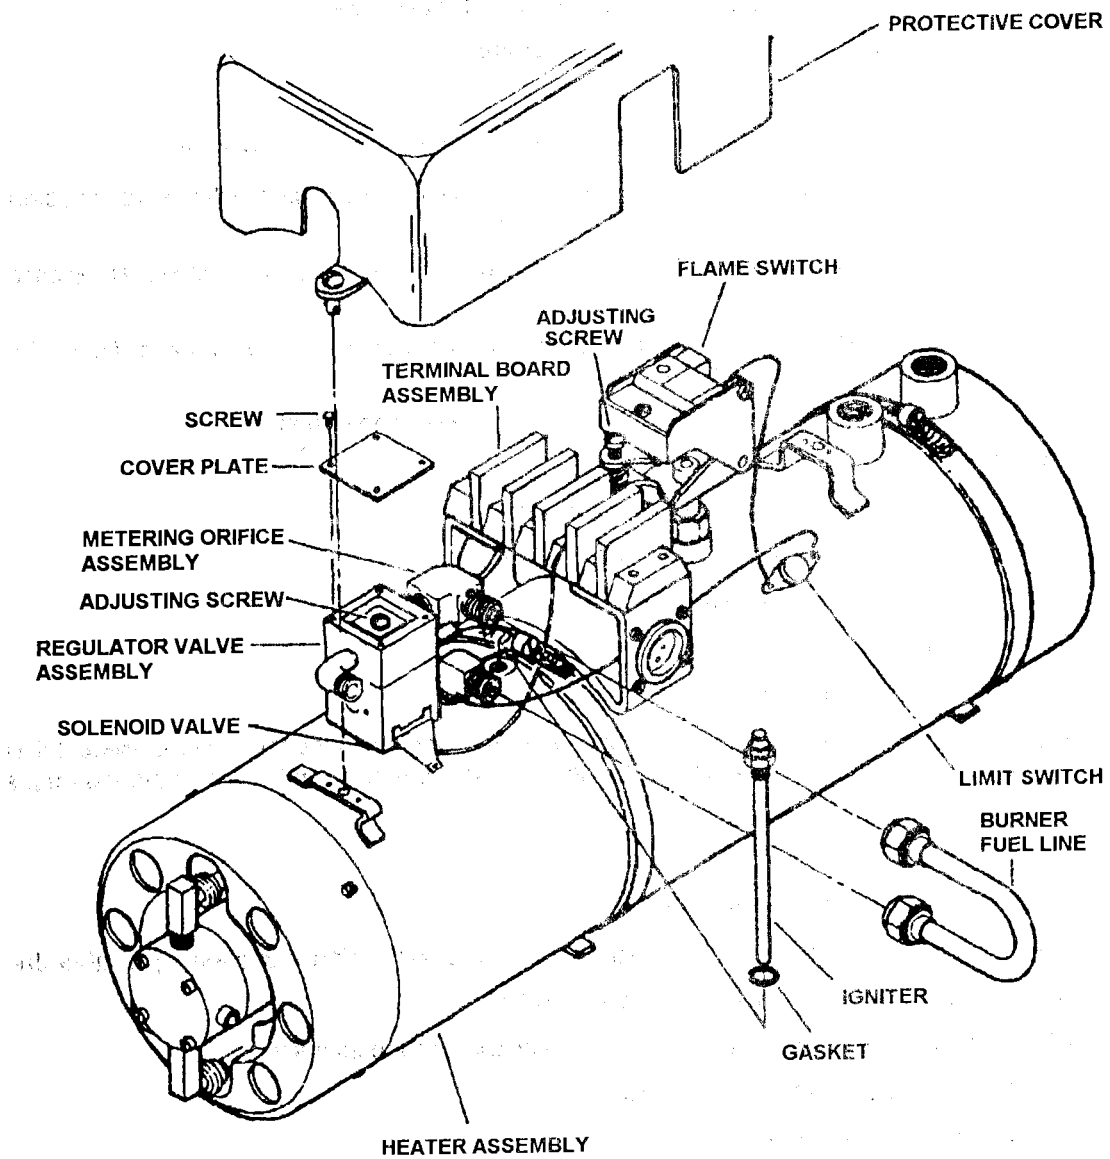

Figure 5-4. Fuel Burning Winterization Kit Heater Assembly Maintenance
- (1) Service regulator valve assembly screen, sintered filter, and metering orifice assembly (paragraph 5-7b. above). Do not install burner fuel line or protective cover.
- (2) Tag and disconnect electrical lead to igniter assembly (Figure 5-4).
- (3) Remove screws and cover plate to expose brass adjusting screw.
- (4) Connect one end of burner fuel line onto metering orifice assembly and position the other end to drain into a graduated container.
- (6) With fuel inlet line connected and fuel at the valve, place heater assembly into operation (paragraph 2-22).
- (7) Using a stopwatch, time the fuel flow into graduated container. Flow should measure 1/2 pint in 10 to 12 minutes.
- (8) If flow is not within specified limits, rotate adjusting screw (Figure 5-4) to obtain proper flow rate.
- (9) Stop heater assembly operation (paragraph 2-22).
- (10) Install burner fuel line (Figure 5-4).
- (11) Install cover plate and secure with screws.
- (12) Install igniter assembly electrical lead.
- (13) Install heater assembly protective cover.
- (14) Remove jumper wire from thermostat switch.
- (1) Remove protective cover (Figure 5-4).
- (2) Using a suitable screwdriver, rotate flame switch adjusting screw counterclockwise until heater motor starts.
- (3) Rotate adjusting screw clockwise until motor stops.
- (4) Give adjusting screw an additional 1/2 (180 degrees) turn.
- (5) Reinstall protective cover.
- (1) Removal.
- (a) Remove protective cover (Figure 5-4).
- (2) Cleaning, Inspection, and Testing.
- (3) Installation.
- (a) Install assembly into heater assembly (Figure 5-4).
- (2) Visually inspect terminal board assembly for insecure mounting, loose electrical connections, stripped or otherwise damaged threads, cracks, corrosion, and burns or other damage.
- (3) Install protective cover.
- (2) Visually inspect limit switch for cracks, corrosion and evidence of shorting or other damage.
- (3) Tag and disconnect electrical leads to switch.
- (4) Using a multimeter or similar device, check switch for continuity.
- (5) Reconnect electrical leads to switch.
- (6) Install protective cover.